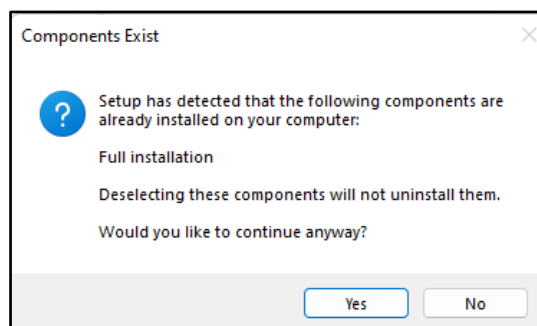

Figure 19. Update installation - Dialog Box
5. If the **Components Exist** dialog box is displayed as shown in **Figure 19** and click **Yes**.